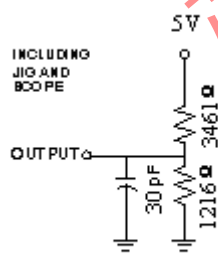

FIGURE 1A
5. Test conditions assume signal transition times of 5ns or less, timing reference levels of 0.5VCC, input pulse levels of 0V to VCC and output loading specified in Figure 1A.
9. Test conditions assume signal transition times of 5ns or less, timing reference levels of 0.5VCC, input pulse levels of 0V to VCC and output loading specified in Figure 1A.